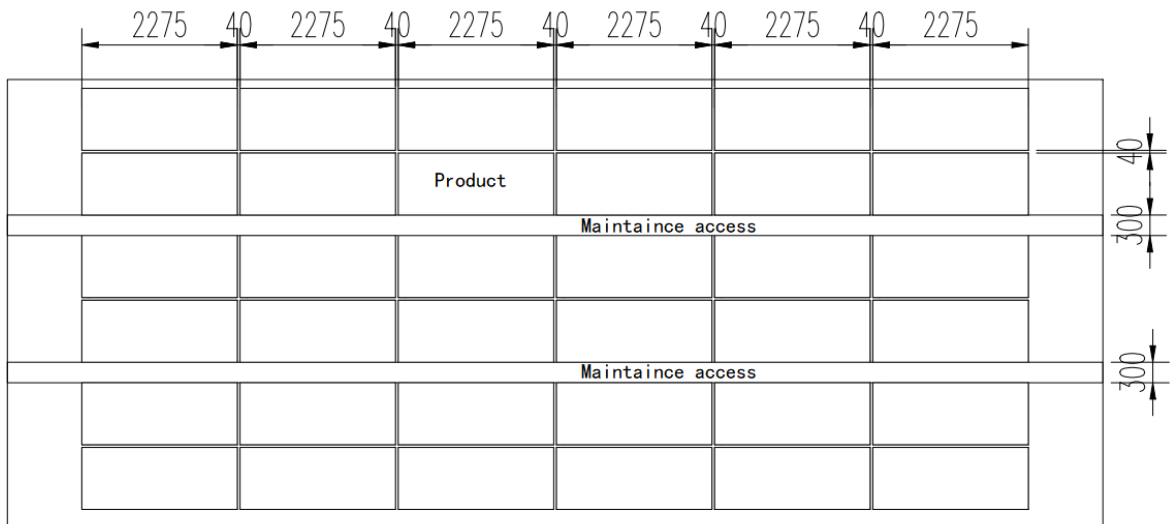

Figure 7
④ A distance of 40mm(±5mm) should be left between two adjacent products and a maintenance access path of 300mm should be provided between two rows of products. (Figure 7).